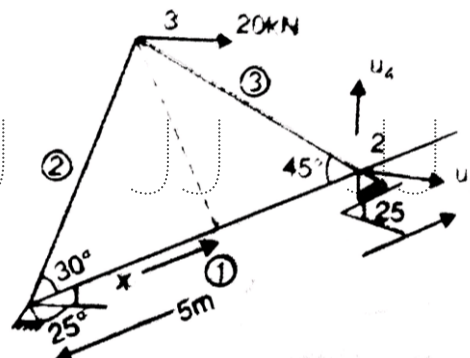

Figure 1
4. Determine the nodal displacement of the following truss as shown in figure 1. [10]